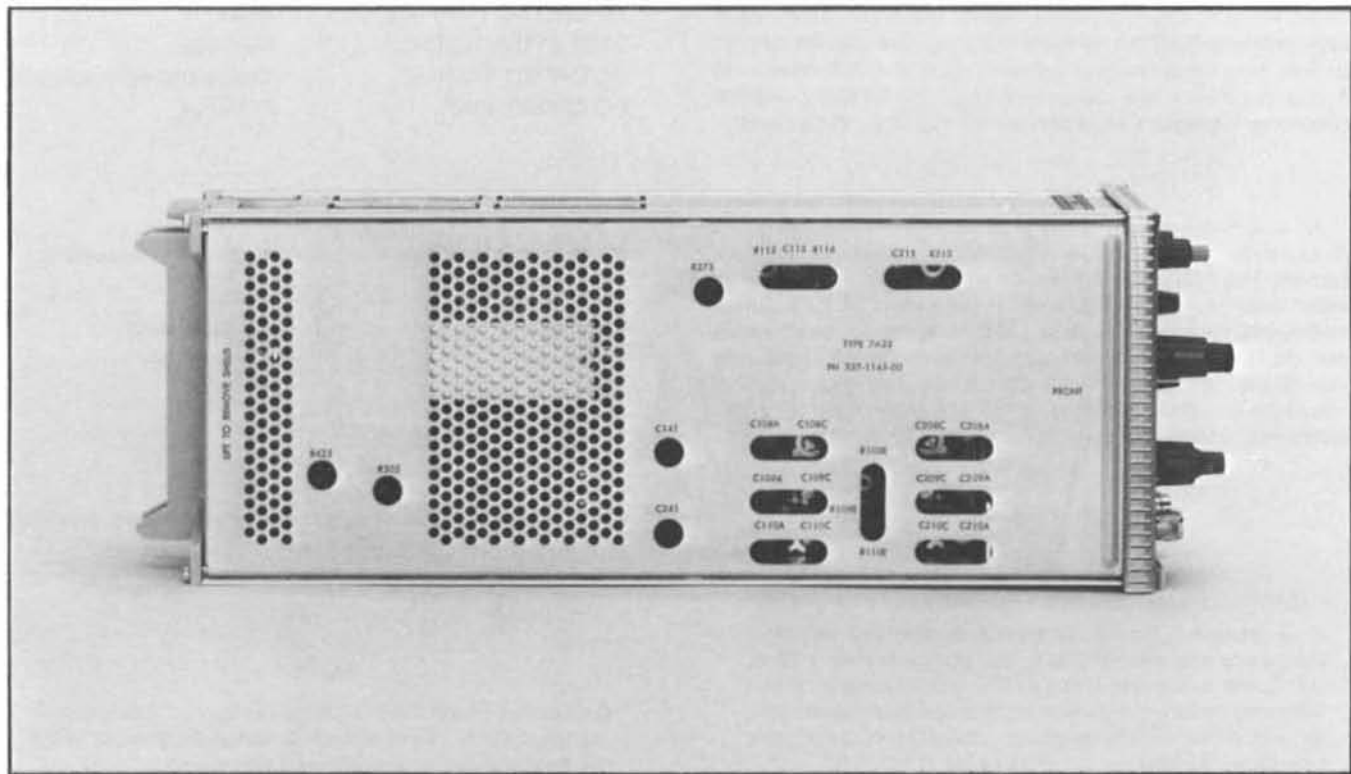

Fig. 5-1. Left side of the 7A22 showing adjustment locations.
- ADJUST—AC Step Atten Bal control, R505, (see Fig. 5-1) to position the trace within 1.5 div of graticule center.
- ADJUST—Variable Bal control, R425, (see Fig. 5-1) for no trace shift while rotating the VARIABLE control.
- ADJUST—Coarse DC Bal, R275, (see Fig. 5-1) to position the trace to graticule center.
- ADJUST—The +Gate Current Zero control, R115, (see Fig. 5-1), to position the trace to graticule center.
- ADJUST—The -Gate Current Zero control, R215, (see Fig. 5-1), to return the trace to graticule center.